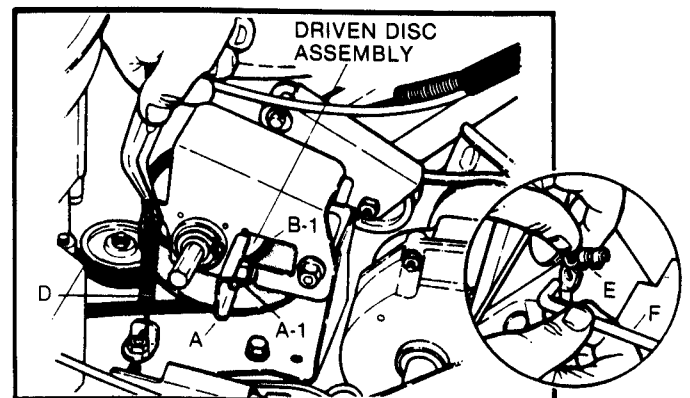

FIG. 14 - DRIVEN DISC ASSEMBLY
- Grease on drive disc (C)-causing slippage.
- Broken or disconnected DRIVE SPRING (D) (also refer to FIG. 14).
- Driven disc rubber ring (B-1) worn - not contacting drive disc (C) properly.
- Driven disc (B) out of adjustment
DRIVEN DISC REPLACEMENT: If the driven disc rubber ring (B-1) is found to be badly chunked or worn down to within 1/16" of the metal rim of the driven disc hub (B), it must be replaced. Remove the clip (E) at end of speed control rod, and then turn the transfer rod (F) to a upright (vertical) position and detach from the connector (A) (FIG. 14 & 15). Unhook drive spring (D) (use needle nose pliers) and slide the driven disc assembly off hex-shaft.